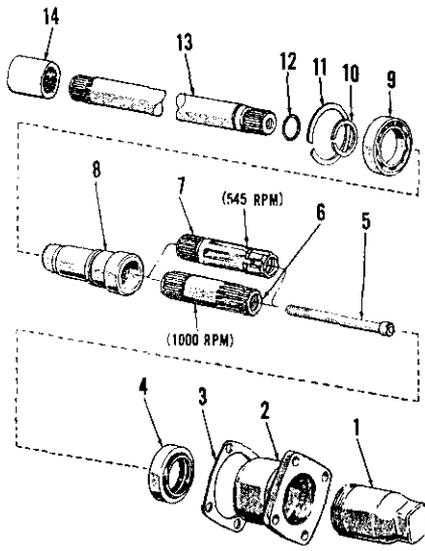
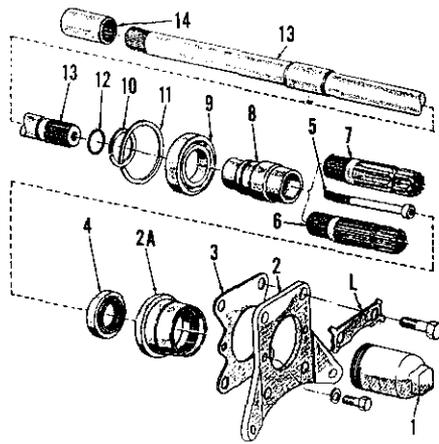

Fig. 355—Exploded view of PTO output shaft assembly used with Select-O-Speed transmission with 2-speed PTO clutch on models 2000 and 3000.
Fig. 356—Exploded view of PTO output shaft assembly for model 4000 tractor with Select-O-Speed transmission with 2-speed PTO option.
**325. R&R AND OVERHAUL OUTPUT SHAFT ASSEMBLY.** To remove the output shaft assembly, first drain lubricant from rear axle center housing, then proceed as follows: On model 4000 (except 4110 L.C.G.), disconnect hydraulic lift lower link sway chains from retainer plate (2—Fig. 356), then unbolt and remove the retainer plate and withdraw output shaft, bearing and retainer assembly
To service 2-speed PTO output shaft assemblies, proceed as follows: Refer to Fig. 355 for models 2000, 3000 and 4110 L.C.G. and to Fig. 356 for other 4000 models. Remove the Allen head cap screw (5) and remove either the 540 RPM or 1000 RPM stub shaft (6 or 7). The output shaft (13) can then be removed from the sleeve (8) and the sealing "O" ring (12) can be renewed at this time. Remove snap ring (11) and press or drive sleeve and bearing from front end of retainer (2 or 2A). Remove